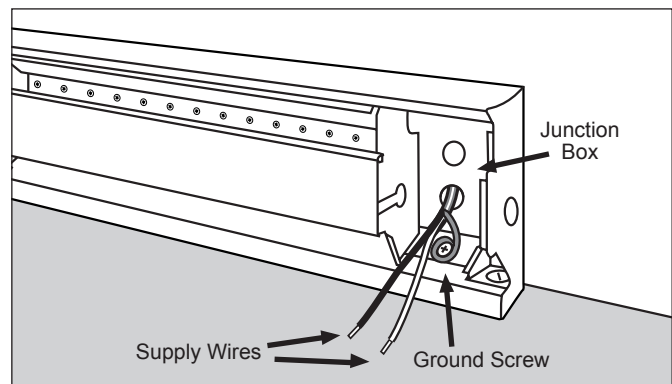

Figure 4
4. Pull supply wires through the connector and secure leaving 6 inch wire leads for later use (See Figure 4).
6. Connect the grounding lead to the grounding screw on whichever side you are wiring (See Figure 4). Both sides of the heater include a grounding screw.